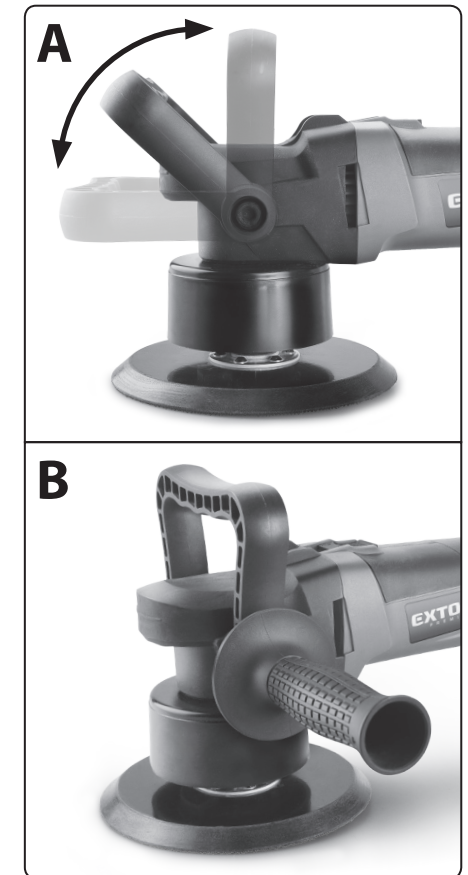
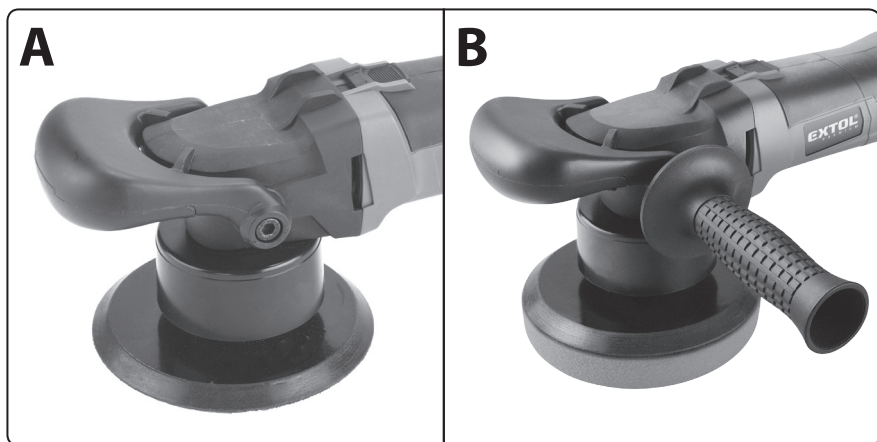

Fig. 7
Fig. 8
- ➔ The top D-shaped front handle or the flat front handle in combination with the side handle make holding the polisher easier and make work more pleasant in various polishing/holding positions, e.g. polishing the side of a vehicle, hood, etc. see fig. 7 A, B, and fig. 8 A, B.
• For safety reasons and for reasons of having better control over the polisher, always install the front auxiliary handle on the polisher as shown in fig. 7 or fig. 8. It is not necessary to install the side handle for safety of standard polishing tasks, however, it increases comfort when polishing, for example the side of a vehicle.
➔ Position the holes in the D-shaped handle aligned over the holes in the side of the polisher and turn it to a comfortable holding position, fig. 7 A. Instead of the bolt, it is possible to screw in the side handle from the side, see fig. 7 B. When the side handle is installed, simply screw the bolt in on the opposite side. When the side handle is not installed, it is necessary to screw the bolts in on both sides.
➔ When installing the flat front handle, first place the holes in the handle over the side holes of the polisher from below and then click the handle on to the front part of the polisher (this requires a certain „knack“). It is possible to install the side handle on to the side, see fig. 8 B. When the side handle is installed, simply screw the bolt in on the opposite side. When the side handle is not installed, it is necessary to screw the bolts in on both sides.